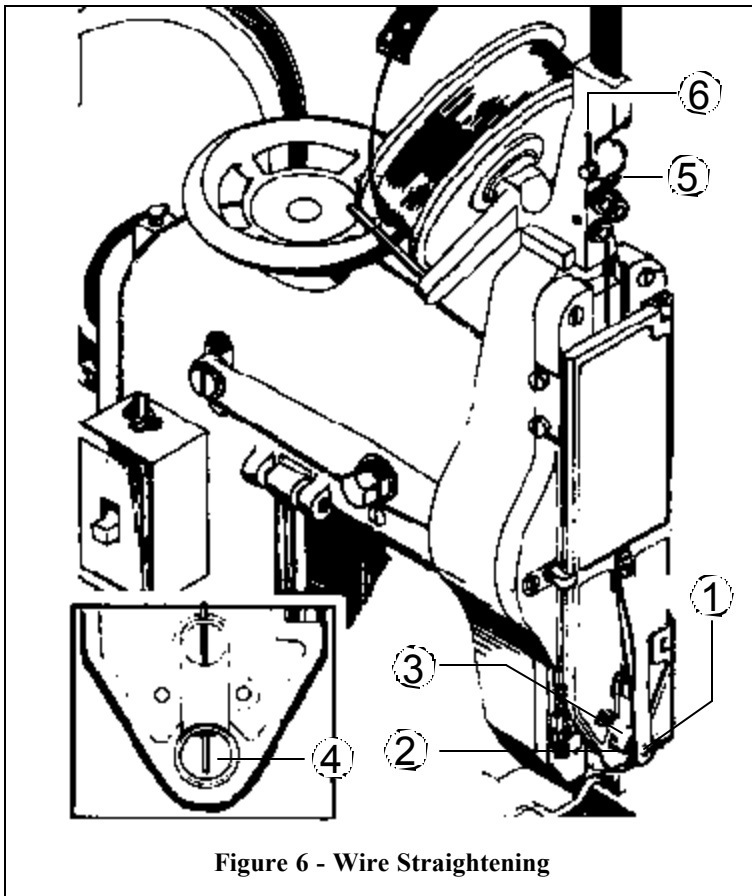

Figure 6 - Wire Straightening
Wire Straightening (Figure 6)
In order to insure continuous operation of the Stitcher, it is important that the wire when being fed into the Swivel, enters in as close to a straight-vertical line as possible. To check this condition and make the necessary adjustments, proceed as follows. Disengage the Swivel Spring (1) from the Swivel (2) and withdraw the Swivel from its Bushing (3). Turn the machine over manually and observe by looking directly into the Swivel Bushing (4) that wire is being fed in a vertical line, as shown in insert Figure 6. If the wire is feeding to the left or to the right, turn the Lower Wire Straightener Eccentric Handle (5) clockwise or counter-clockwise as